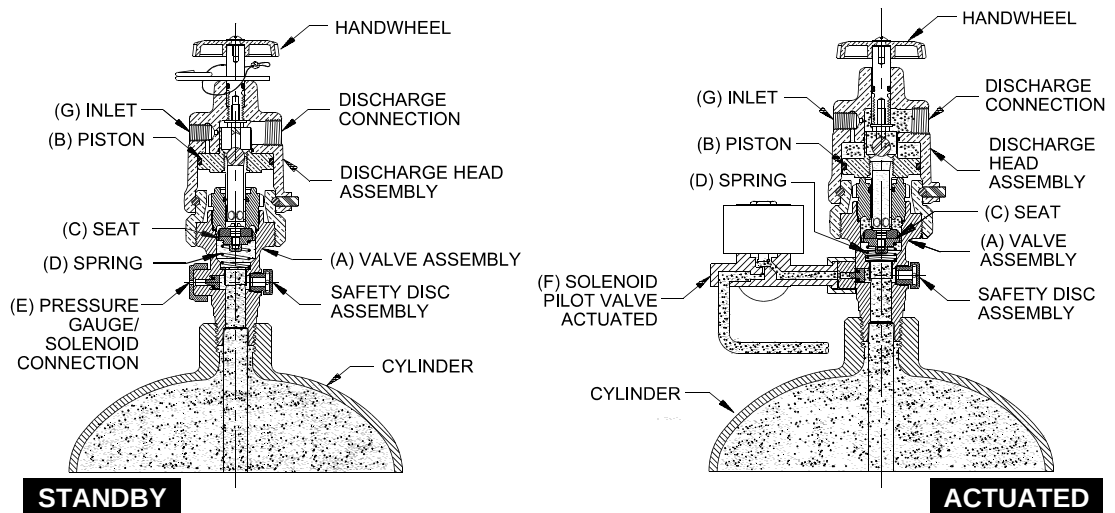

Figure 2.2.1 - Alpha Valve
The Alpha cylinder valve is designed to maintain cylinder pressure below the seat assembly (C) (Refer to Figure 2.2.1). The pressure exerted by the spring (D) and the internal pressure forces a seal between the elastomer in the seat assembly (C) and the machined seat ring in the cylinder valve (A).
Figure 2.2.1 illustrates diagrammatically the two valve modes; namely **standby**, where the valve is awaiting actuation, and **manual/automatic actuation**, where the valve has been either electrically actuated by a fire detection control panel or manually actuated by turning the handwheel.